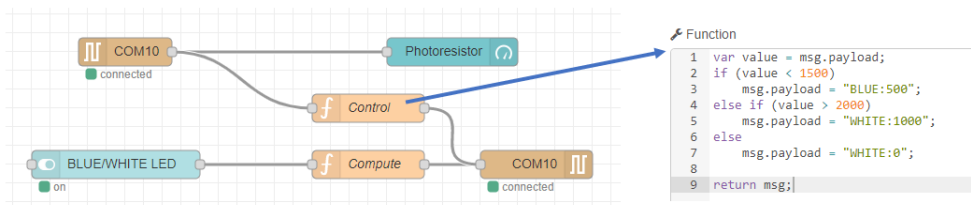

FIGURE 4.4 – Node-RED application with Control node.
1. Add a *Control* function to the Node-RED program between the *serial in* node and the *serial out* node as depicted in the figure 4.4. Add the JavaScript code in the *Control* function.